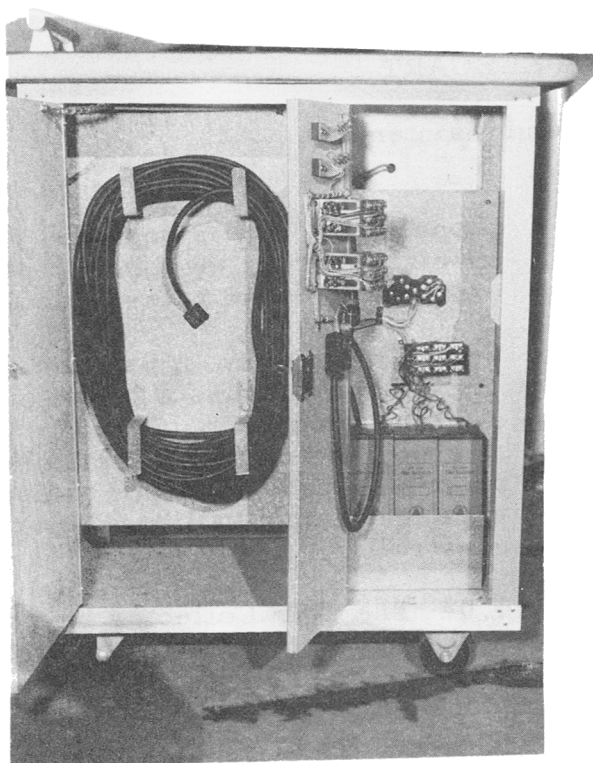

FIGURE 2
1.05 The reverse side of the cabinet contains two compartments: one to store the extension cord, the other to mount the control equipment illustrated in Figures 2 and 3. Equipment is mounted on the inside of the door, the left side panel and the rear panel of this compartment. The door is equipped with a regular upper housing lock from a coin collector.
1	Lock, Coin Collector, 10H. (Figure 2)